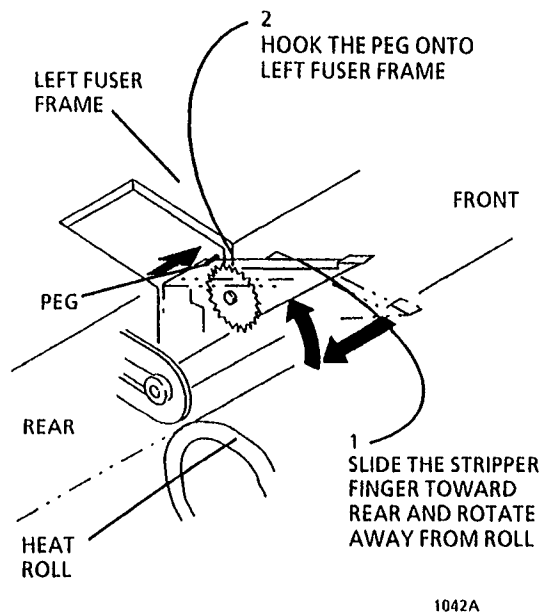

Figure 1. Securing the Stripper Fingers
6. (Figure 1): Secure the stripper fingers away from the heat roll.